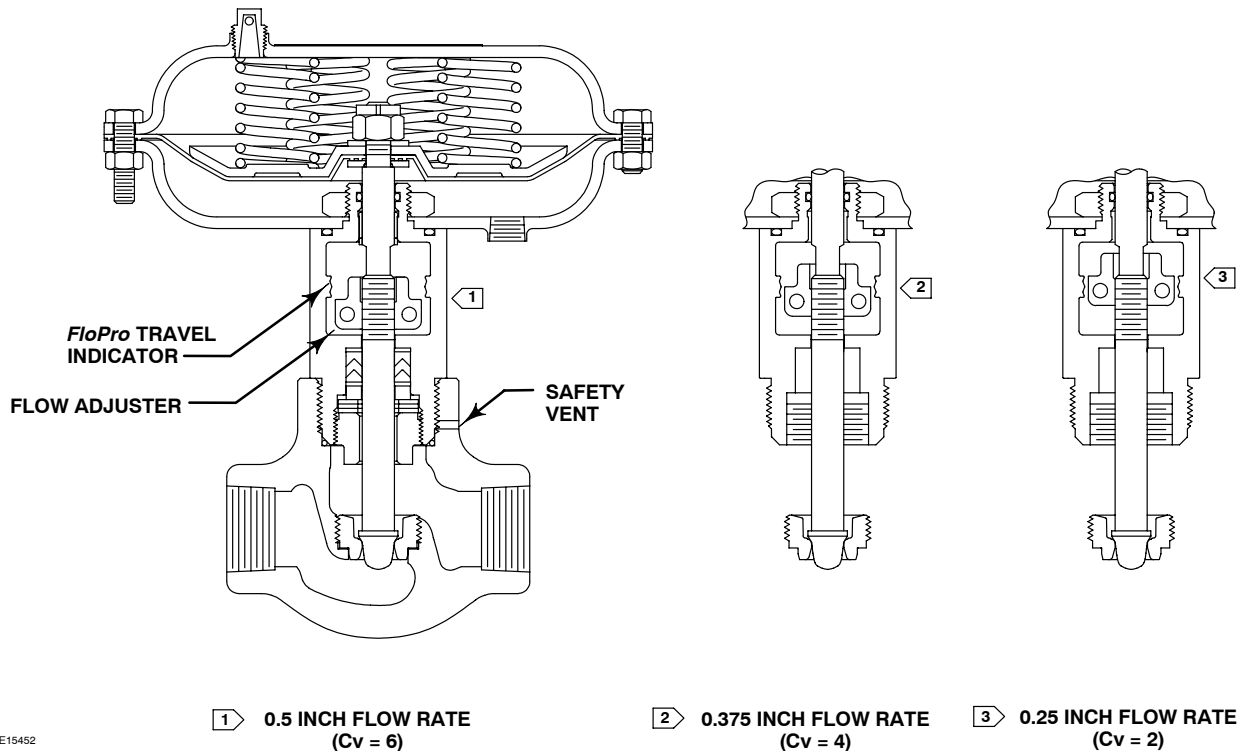

Figure 2. Flow Rate Adjustments
1. To change the valve flow rate, loosen the flow adjuster socket head cap screws (key 29), and reposition the flow adjuster halves (key 14 and 15) to the desired flow rate position. See figure 2 for flow rate settings.
2. To change the valve flow rate, loosen the flow adjuster socket head cap screws (key 29), and reposition the flow adjuster halves (key 14 and 15) to the desired flow rate position. See figure 2 for flow rate settings.
Avoid personal injury from sudden release of process pressure. If the process media starts to escape from the safety vent (see figure 2) located in the bonnet neck of the valve body,